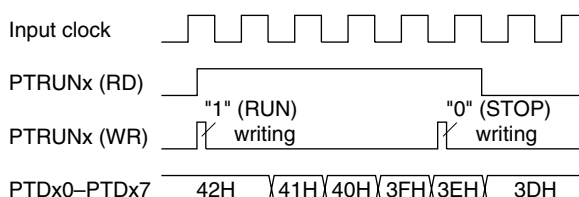

Fig. 4.11.11.1 Timing chart for RUN/STOP control
- (2) The programmable timer actually enters RUN/STOP status in synchronization with the falling edge of the input clock after writing to the PTRUNx register. Consequently, when "0" is written to the PTRUNx register, the timer enters STOP status at the point where the counter is decremented (-1). The PTRUNx register maintains "1" for reading until the timer actually stops. Figure 4.11.11.1 shows the timing chart for the RUN/STOP control.